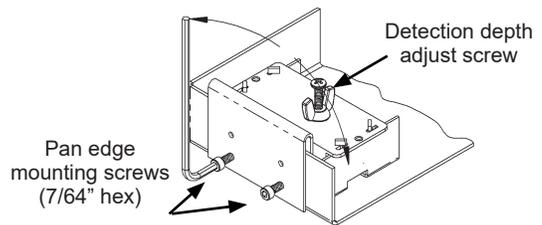

Fig. 6: Remote Spot Sensor Pan Rim Mounting
1. The sensor can be secured to a flat surface using the adhesive mounting strips (Fig. 7) or a screw (Fig. 8). It can also be mounted to a drip pan rim using the provided 7/64" hex set screws as shown in Fig. 6. If using the adhesive mounting strip, clean the surface before adhering.